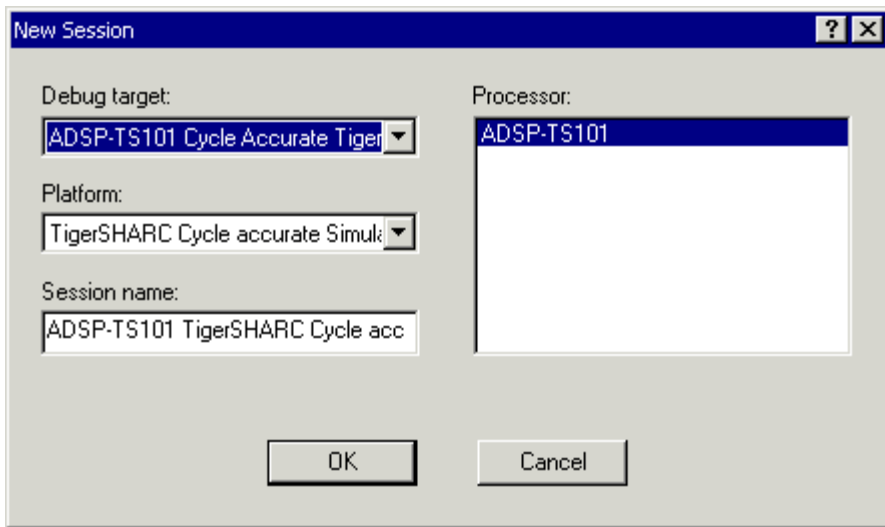

Figure 2-6. New Session Dialog Box
If you are running VisualDSP++ for the first time, the **New Session** dialog box (Figure 2-6 on page 2-11) opens to enable you to set up a session.
1. In the **Session List** dialog box, click **New Session** to open the **New Session** dialog box, shown in Figure 2-6 on page 2-11.